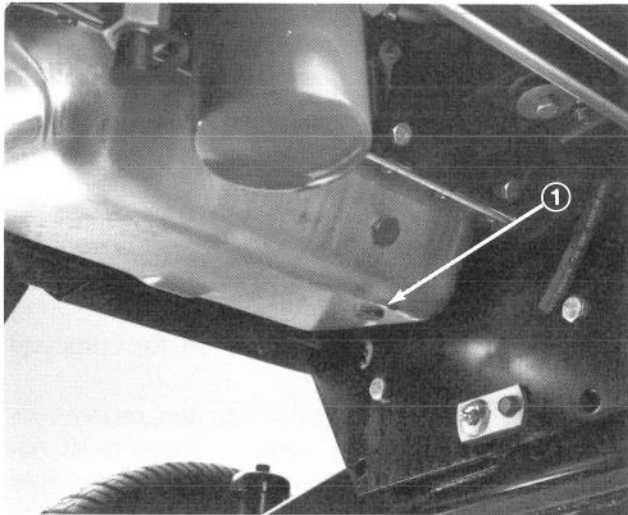

Figure 39
ENGINE OIL AND FILTER (Fig. 39–40)
1. Remove drain plug (Fig. 39) and let oil flow into drain pan. When oil stops, install drain plug and new plug seal.